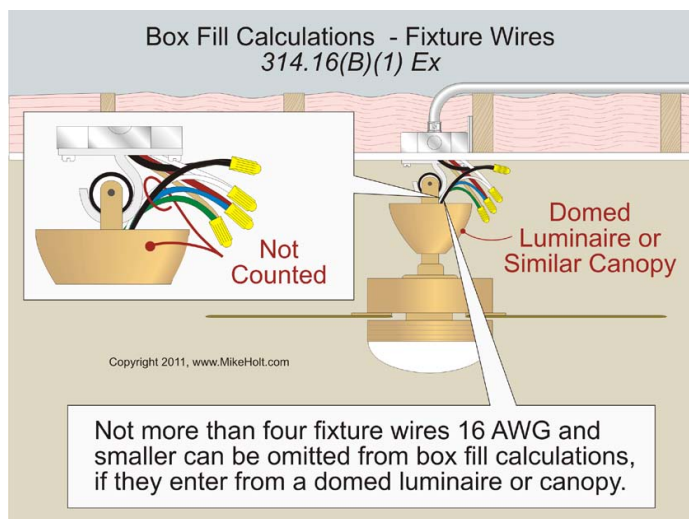

Figure 5-34
*Exception: Equipment grounding conductors, and up to four 16 AWG and smaller fixture wires, can be omitted from box fill calculations if they enter the box from a domed luminaire or similar canopy, such as a ceiling paddle fan canopy.* Figure 5-34